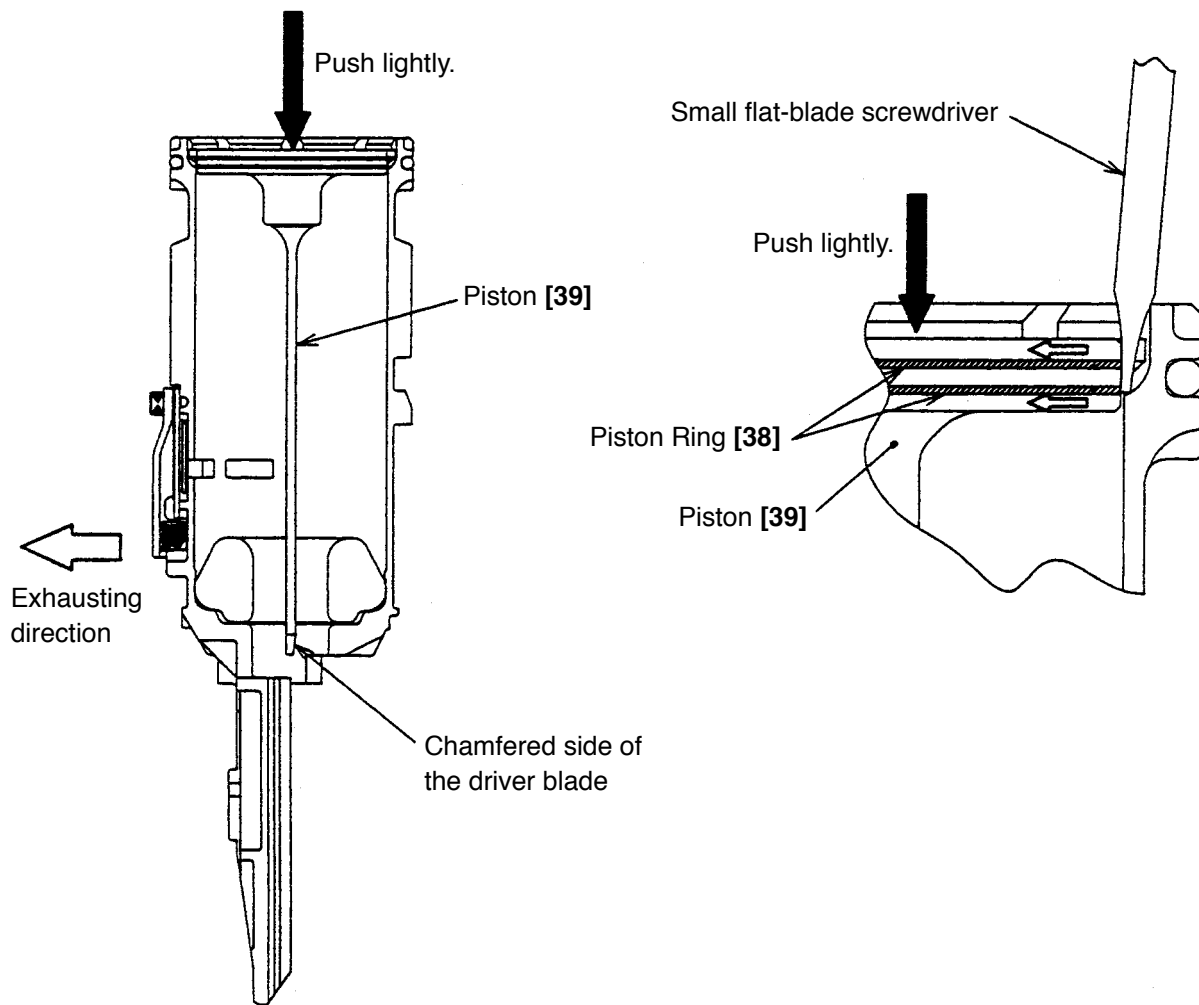

Fig. 39
- (2) If the Piston Ring [38] fits in the retaining ring groove inside the cylinder, insert a small flat-blade screwdriver into the concave portion (7 places) at the end of the cylinder and lightly push the Piston [39] in fitting the Piston Ring [38] in the groove of the Piston [39]. Do not push the Piston [39] in forcibly. Otherwise, the Piston Ring [38] may be damaged (Fig. 39).
- (3) Check that the tip of the driver blade is shown in the outlet. The Piston [39] cannot be mounted if the tip of the driver blade contacts the Piston Bumper [40] or the bottom of the cylinder.
- (4) Face the chamfered side of the tip of the driver blade in the direction opposite to the exhaust port of the Cylinder Ass'y [42] (Fig. 39).